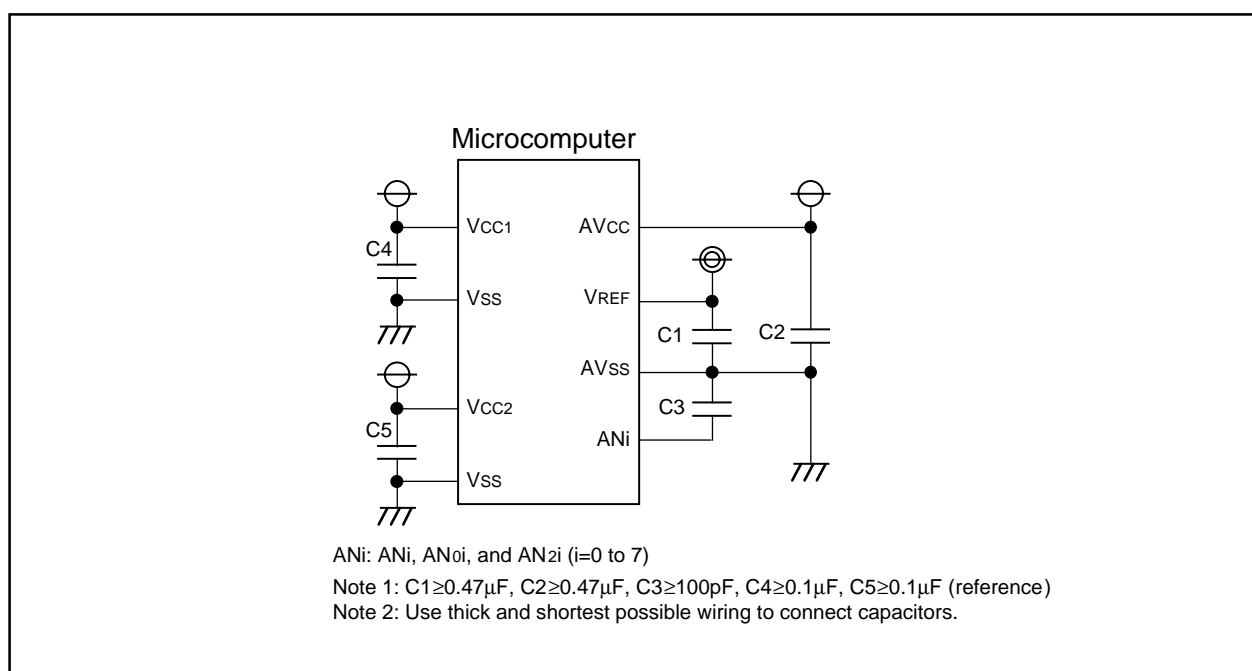

Figure 1.7.1. Use of capacitors to reduce noise
3. To prevent noise-induced device malfunction or latchup, as well as to reduce conversion errors, insert capacitors between the AVCC, VREF, and analog input pins (ANi) each and the AVSS pin. Similarly, insert a capacitor between the VCC pin and the VSS pin. Figure 1.7.1 is an example connection of each pin.